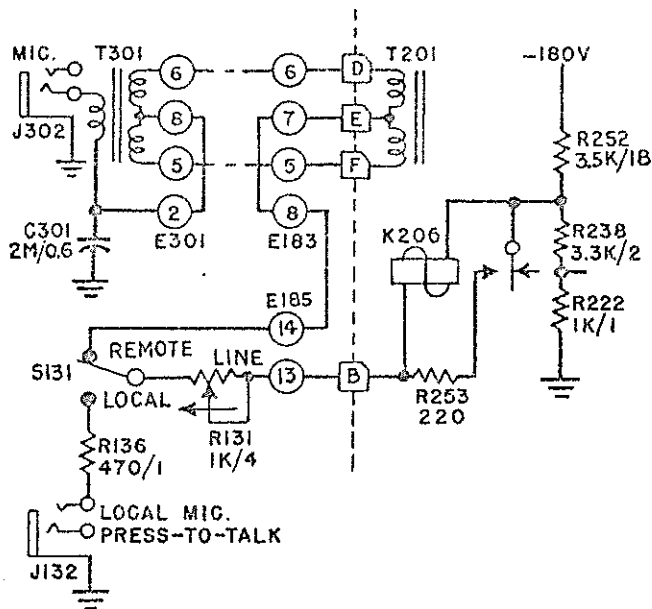

Fig. 2-11 Remote Microphone d-c Feed, Simplified Schematic Circuit
(1) Direct current for the microphone at the remote control unit is fed from the transmitter over the audio pair of telephone wires (see Fig. 2-11). When the press-to-talk switch is depressed, relay K206 closes and turns on the driver amplifier. After the relay has closed, R253 is connected in parallel with its coil. This arrangement allows K206 to be operated initially by a large current and then to be held by means of a relatively small current. It also allows the correct operating current for the microphone to flow from the bias supply and voltage divider R252, R238, R222, through the "REMOTE-LOCAL" switch S131, transformer T201, the telephone lines in parallel, and both sides of T301. The current fed to the remote microphone may be adjusted by altering the setting of R131, marked "LINE" and situated just below the meter at the bottom of the transmitter control panel. The microphone audio circuit is completed through the primary of T201 and capacitor C301.